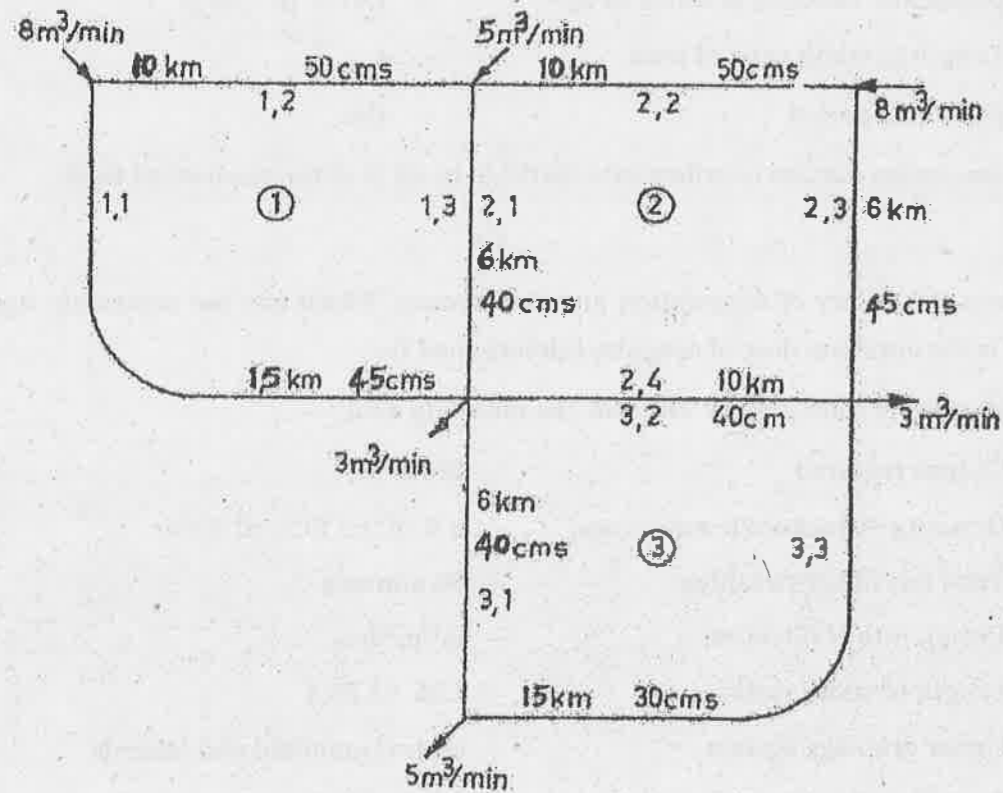

Fig. 1
20. Analyze the pipe network in the following figure (Fig. 1) by Hardy Cross method.